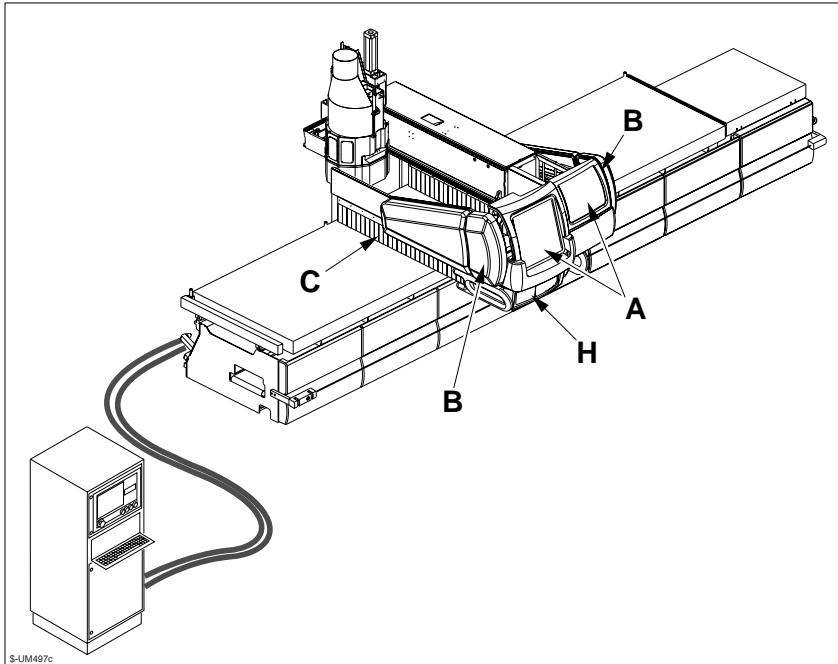

Fig. 1.9
- Total guard A (fig.1.9) protecting the tool slide and the operating units so as to completely isolate the parts which move along the "Y" axis.